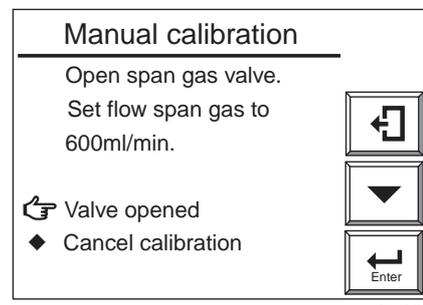
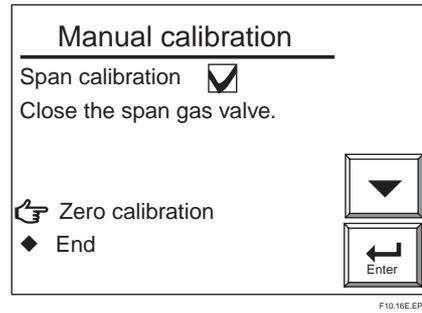

Figure 10.15 Manual Calibration Display
Figure 10.16 Manual Calibration Display
- (2) Next, adjust the flow rate to 600 ± 60 ml/min using the span gas valve “AIR” (the flow check ball stops floating on the green line when the valve is slowly opened). To rotate the valve shaft, loosen the lock nut and turn it using a flat-blade screwdriver. Turning the valve shaft counterclockwise increases the flow rate.
- (3) After adjusting the flow rate, tighten the valve lock nut.
- (4) Select Valve opened (to start calibration) from the Manual calibration display shown in Figure 10.15. Check the Trend graph display to see that the measured value is stabilized. Then press the [Enter] key. The Manual calibration display shown in Figure 10.16 appears. Disconnect the power cord to stop the pump.
- (1) When the display shown in Figure 10.15 appears during calibration, open the span gas flow setting valve of the flow setting unit and adjust the flow rate to 600 ± 60 ml/min. Turn the valve slowly counterclockwise after loosening the lock nut if the valve has a lock nut. To check the flow rate, use the calibration flow meter. If the measurement gas pressure is extremely high, adjust the measurement gas pressure to obtain pressures (listed in Table 10.6) $\pm 10\%$.
- (2) Adjust the flow rate and select Valve opened from the Manual calibration display. Check the Trend graph display to see that the measured value is stabilized. Then press the [Enter] key. The Manual calibration display shown in Figure 10.16 appears.
- (3) Close the span gas flow setting valve to stop the span gas (air) flow. If the valve has a lock nut, be sure to tighten the lock nut to prevent any leakage of span gas into the sensor during measurement.